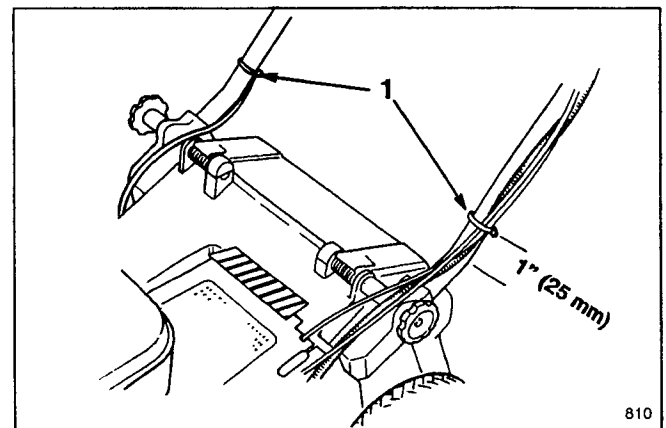

Figure 3
6. Use cable ties to secure cables to lower ends of handle tubes (Fig. 3). Cable ties should be positioned 25 mm (1") from bend in handles. See Figure 3 for correct cable placement.